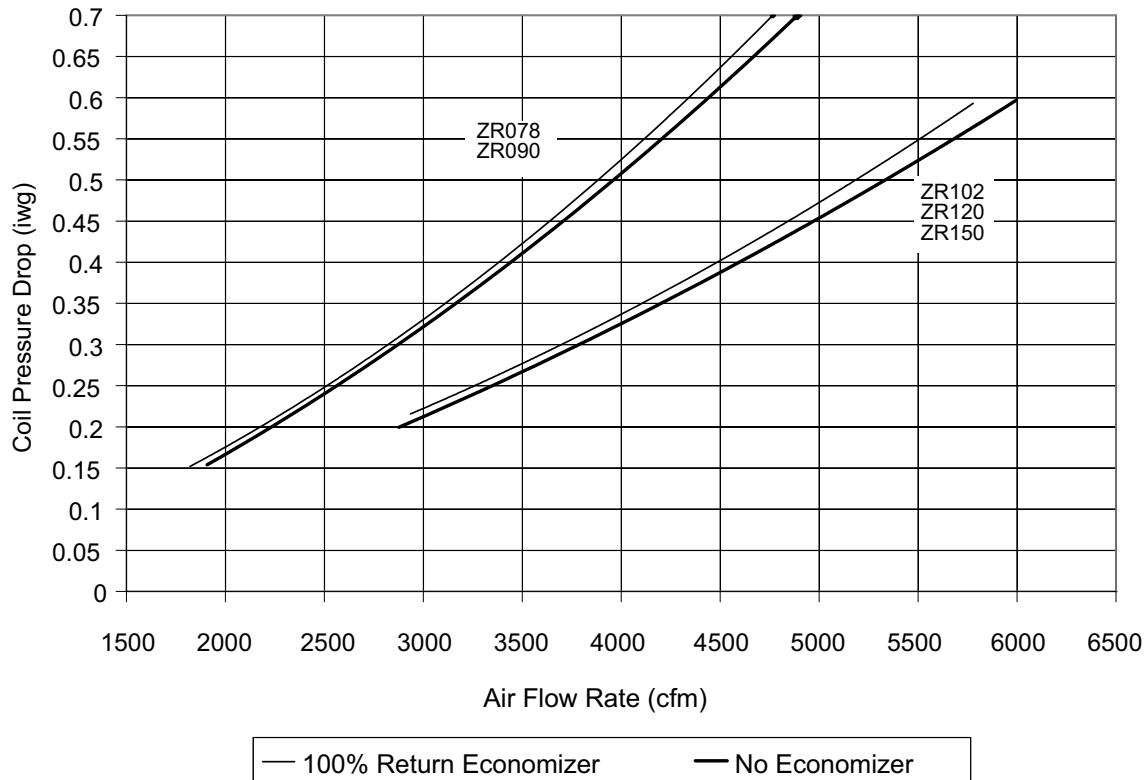

Figure 30: Dry Coil Delta P
4. The CFM through the unit can be determined from the pressure drop indicated by the manometer by referring to Figure 30. In order to obtain an accurate measurement, be certain that the air filters are clean.